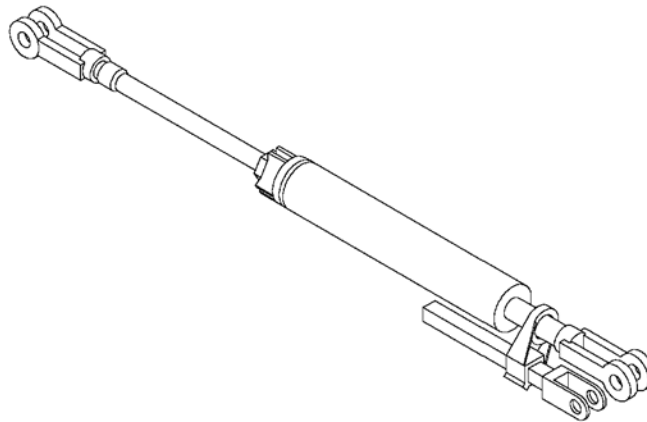

Figure 32: KRD-482-E Slack Adjuster
5.11 KRD-482-E SLACK ADJUSTER, Fig. 32, 33 and 34